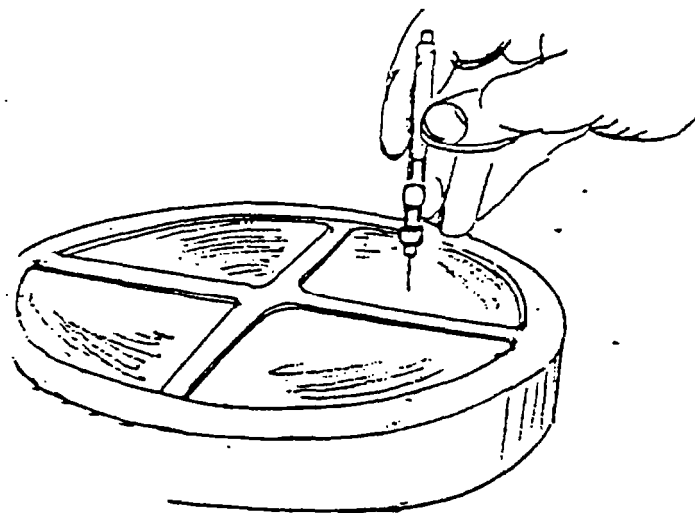

Figure 4.
8. ( ) A 0.018 inch wire gauge cannot pass through the openings of the flame arrester core. The procedure for making this inspection (dated August 5, 1985) is attached. Also see figure 4.